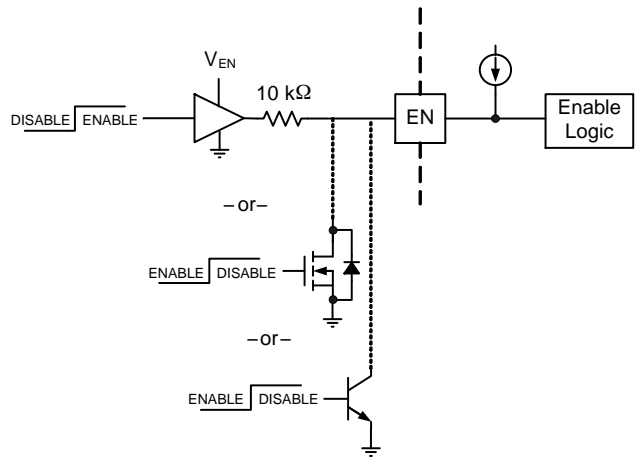

Figure 27. Enable Circuits: Push-Pull, Open-Drain, or Open-Collector
The device has an enable pin (EN) with internal 50  $\mu$ A pullup current. This gives the user the option of driving EN with a push-pull or open-drain/collector enable signal. When driving EN with an external logic supply a 10 k $\Omega$  series current limiting resistor must be placed in series with EN. See Figure 27. The maximum enable threshold is 3.4 V. If no external drive voltage is available, the internal pullup can be used to enable the device, and an open drain/collector input, such as a MOSFET or BJT can be used to disable the device. A capacitor connected between EN and ground can be used with the internal pullup current source to provide a fixed delay to turn-on and turn off. See Equation 1.